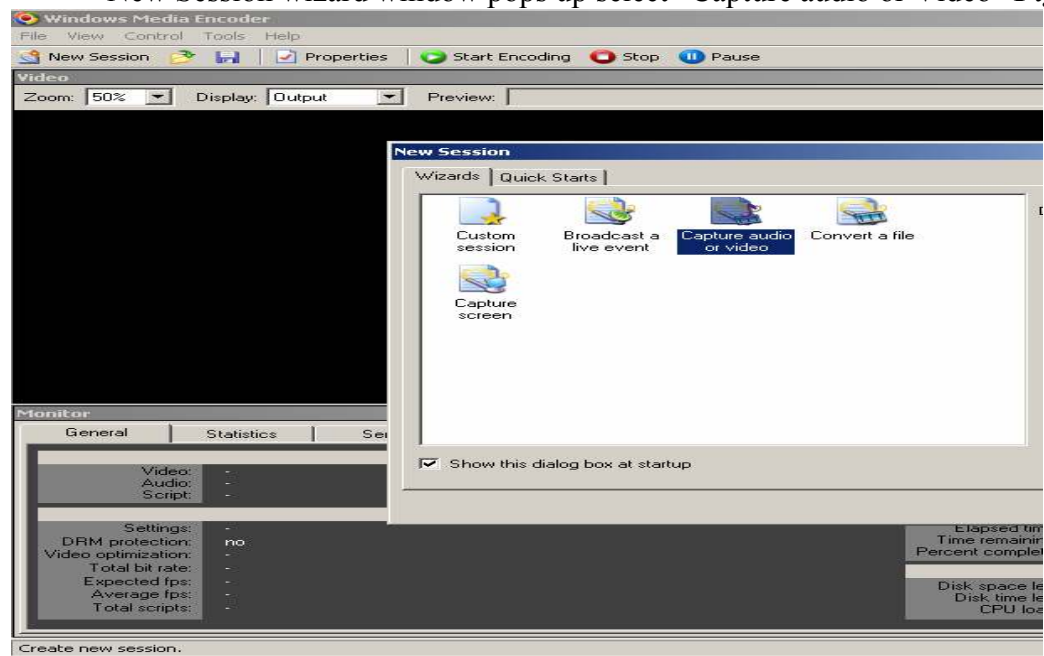

Figure 5.6 Creating new session
- New Session wizard window pops up select “Capture audio or Video” **Fig 5.6**